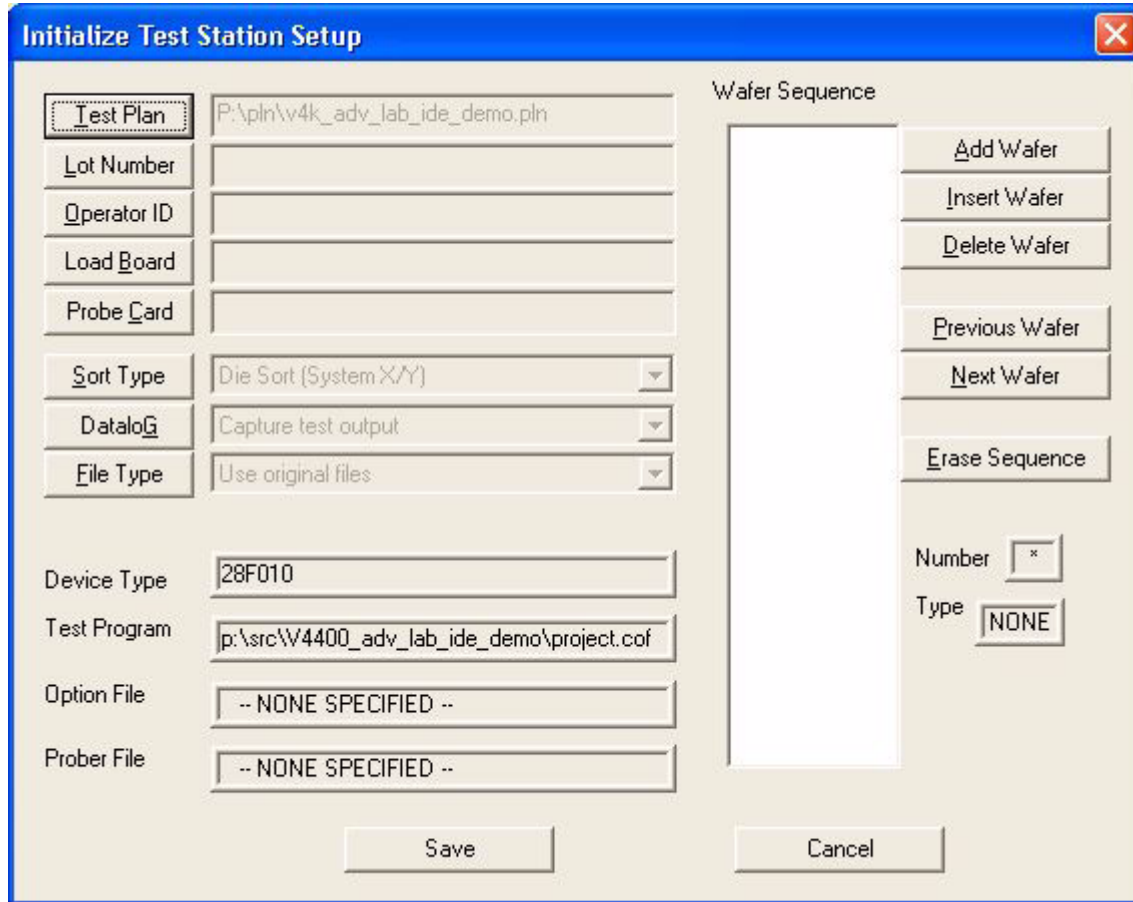

Figure 7-32. Initialize Test Station Setup Dialog Box
- 2 In the menu bar, selecting Init Lot > Enter Lot Information displays the Initialize Test Station Setup dialog box (Figure 7-32) that is used to set up each lot for testing.
- 4 Selecting the `v4k_adv_lab_ide_demo.pln` plan file to highlight it, and selecting **Open** displays the Initialize Test Station Setup dialog box with the plan file displayed in the Test Plan field (Figure 7-32 on page 326).